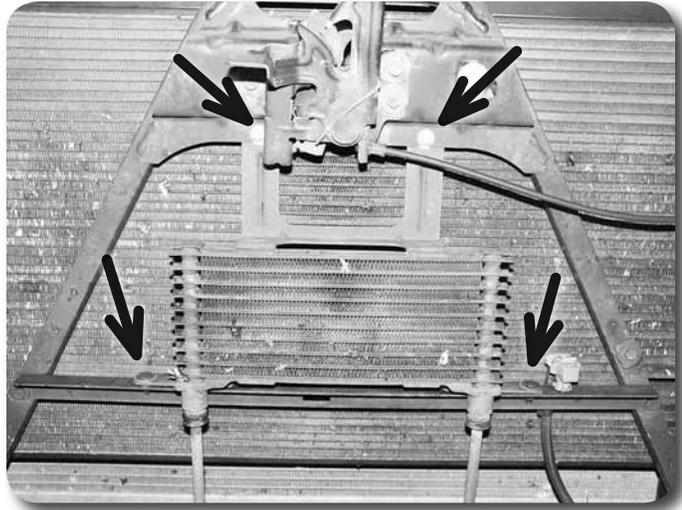

Figure 3
4. Remove the two bolts and two plastic clips mounting the transmission cooler to the core support **Figure 3**. Pull the cooler forward, free from the core support mount. Save hardware.